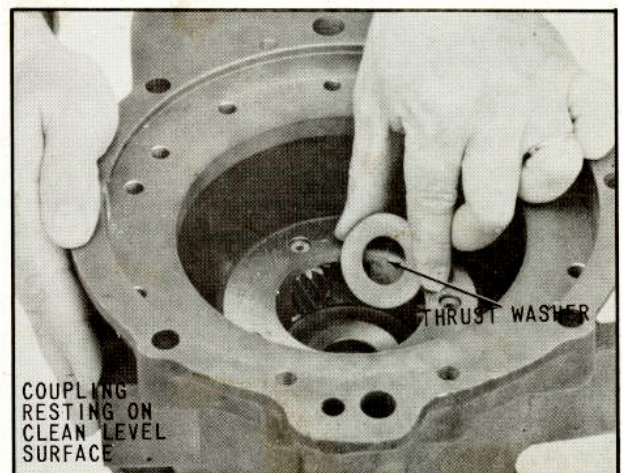

Fig. 49 Installing Thrust Washer
45. Place the parts assembled in steps 1 through 17 inclusive, on a smooth, clean surface in the upright position indicated in (Fig. 49). In this position, the rear face of rear coupling will provide sufficient base to enable assembly to proceed.
46. Coat the drive gear thrust washer with petroleum jelly and assemble into pinion cage and output shaft assembly, as shown in (Fig. 49). Center the washer carefully over bore provided for rear of drive gear.